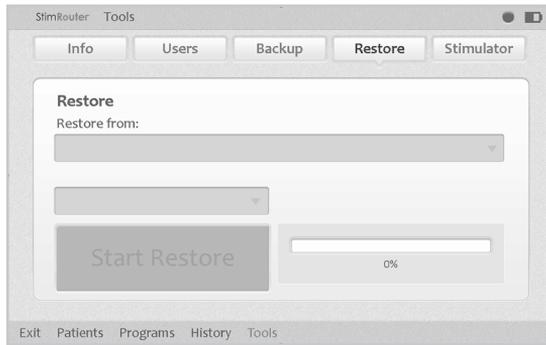

Figure 10-6: Restoring the Clinician's Programmer database
3. From the “Restore from” drop-down list, select SD Card drive. See Figure 10-6.